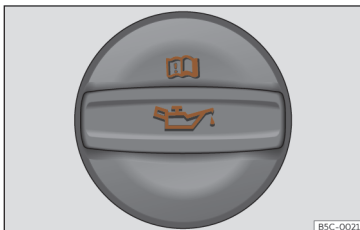

Fig. 211 In the engine compartment: Engine oil filler cap.
- Unscrew cap from engine oil filler opening >>> **Fig. 211**.